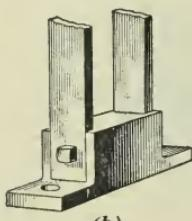

FIG. 54
**75.** There are numerous places where cast-iron hook plates cannot be used; for example, where pipe coils stand away from a wall. In such cases it is necessary to support the coils from the floor with **coil stands**. In some cases, they are made, as shown in Fig. 54 (a), of flat iron with the ends bent to form feet. In other cases, a
cast-iron block is made and the iron bent around the coil and bolted to the block, as shown in Fig. 54 (*b*). Each stand should be provided with a support for each pair of pipes or each separate pipe, so as to preserve the alignment. Each support should preferably have a piece of pipe, as *a*, slipped over the bolts to form a distance piece that